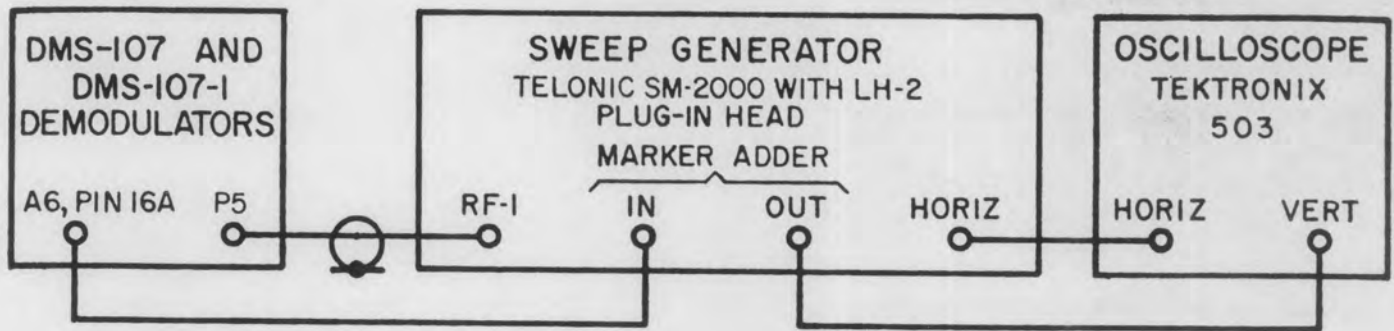

Figure 4-1. Equipment Setup, IF Amplifier Alignment.
- (1) Connect equipment as shown in Figure 4-1.
- (1) Connect equipment as shown in Figure 4-1 except that the sweep generator MARKER ADDER INPUT is connected to FM DET jack, J9, on the rear apron.
- (2) Set demodulator controls as described in paragraph 4.5.6.1 step (2) except that the MODE switch should be placed in FM-MAN.
- (3) Adjust sweep generator and oscilloscope controls to display an "S" response curve.
- (2) Set demodulator controls as described in paragraph 4.5.6.1 except that the BANDWIDTH SELECT switch should be placed in the 300 kHz position.
- (3) Set output of sweep generator to 21.4 MHz and turn internal 21.4-MHz marker on.
- (4) Adjust sweep generator and oscilloscope controls to display a response curve.
- (2) Set demodulator controls as described in paragraph 4.5.6.1 step (2) except that the MODE switch should be placed in the FM-MAN position and the BANDWIDTH SELECT switch placed in the 300 kHz position.
- (3) Adjust sweep generator and oscilloscope controls to display an "S" response curve. Turn sweep generator internal 21.4-MHz marker on.
- (1) Connect equipment as shown in Figure 4-1; turn sweep generator internal 21.4-MHz marker on.
- (2) Set demodulator controls as described in paragraph 4.5.6.1 except that the BANDWIDTH SELECT switch should be placed in the 2 MHz position.
- (3) Adjust sweep generator and oscilloscope controls to display a response curve.
- (1) Connect equipment as shown in Figure 4-1 except that the sweep generator MARKER ADDER INPUT is connected to the FM DET jack, J9, on the rear apron.
- (2) Set demodulator controls as described in paragraph 4.5.6.1, step (2), except that the BANDWIDTH SELECT switch should be placed in the 2 MHz position, and the MODE switch should be placed in the FM-MAN position.
- (3) Adjust sweep generator and oscilloscope controls to display an "S" response curve; turn sweep generator internal 21.4-MHz marker on.